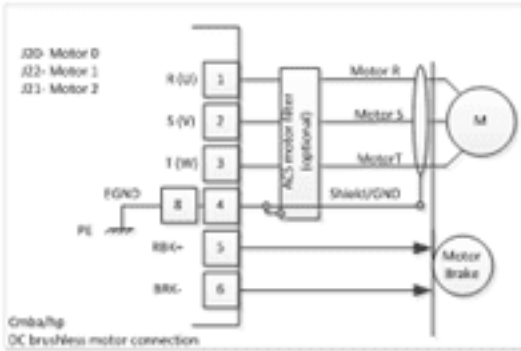

Figure 3-1. 3-Phase Motor Connection
A 3-phase motor connection is depicted in Figure 3-1. An optional motor filter is shown in series between the drive and the motor. A shielded cable should be used, terminated in the EGND pin which is internally connected to the chassis (PE). If needed, the shield/GND may be connected to the motor's chassis to provide a seamless common ground reference.